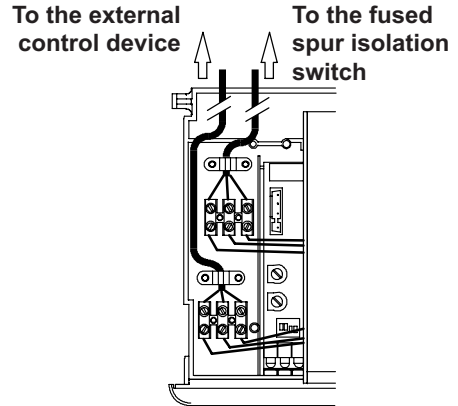

Fig. 6.18
- Route the electrical supply flexible cord and the external control flexible cord as illustrated in Fig. 6.18. Lock the flexible cords in place with the flexible cord clamps.